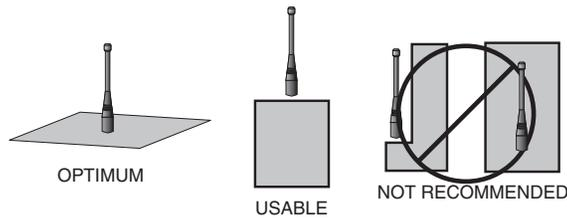

Figure 41: Ground Plane Orientation
2. Optimum performance is obtained from a $\frac{1}{4}$ - or $\frac{1}{2}$ -wave straight whip mounted at a right angle to the ground plane (Figure 41). In many cases, this isn't desirable for practical or ergonomic reasons, thus, an alternative antenna style such as a helical, loop or patch may be utilized and the corresponding sacrifice in performance accepted.